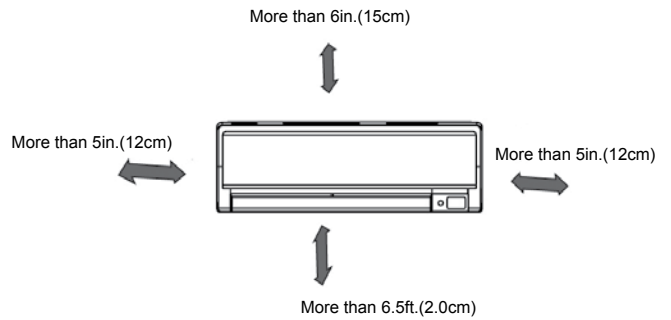
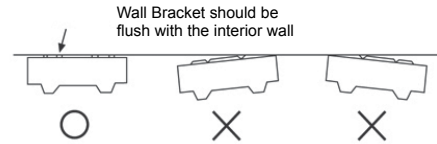
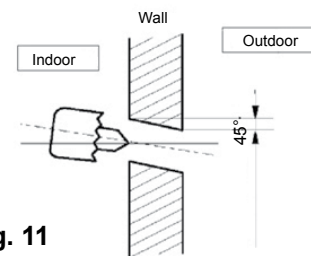
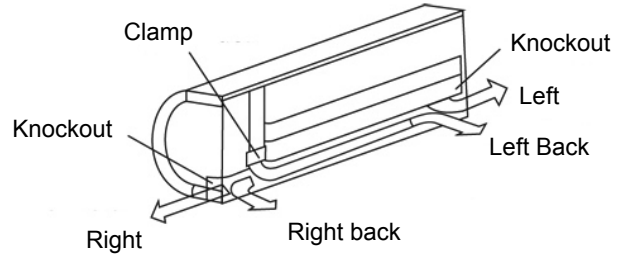

Fig. 1
Fig. 9
Fig. 11
Fig. 14
- Unit must be installed in a location that does not obstruct the flow of air and ensures clearances are maintained. (Fig. 1)
- The indoor unit should be mounted as high up on the wall toward the ceiling, leaving a minimum of 6" (150mm) of space between the ceiling and the top of the indoor unit. (Fig. 1)
- B. Mount the wall bracket flush on structural parts (studs) of the wall with proper unit clearances in consideration. (Fig. 1 and Fig. 9)
- A. Determine hole position according to the wall bracket that comes with your unit, the unit's required clearances (Fig. 1) and which direction (left/right) the lines will be routed from the back of your unit (Fig. 14). Drill 2.5" (65mm) hole angled downward (approx. 45°) toward the outdoors. (Fig. 11).
- A. Remove the knockout from the desired side of the unit that the line set will be routed from. The lines from the unit can be routed either left or right, left back or right back (Fig. 14).
- B. Remove the clamp (Fig. 14) before attempting the bend the line set to prevent kinks. The clamp may be replaced and used to hold the line set in place, but this depends on the routing direction of the line set and whether it is needed, taking into account the line's bend radius.